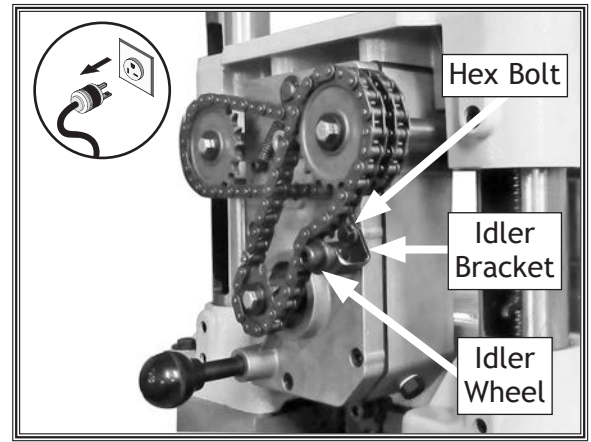

Figure 55. Drive chain adjustment.
2. Remove gearbox cover to access drive chain components (see **Figure 55**).
3. Loosen hex bolt (see **Figure 55**) that secures idler bracket to gearbox, then push idler wheel against chain with moderate pressure to eliminate slack in chain. While maintaining pressure on idler wheel, tighten hex bolt (see **Figure 55**).